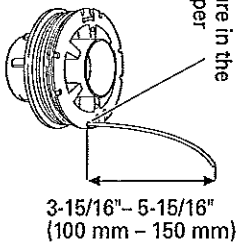

Fig. 20
- (5) Leave about 3-15/16" - 5-15/16" (100 mm - 150 mm) nylon cord unwound, hook and secure the line in the stopper. (Fig. 20)